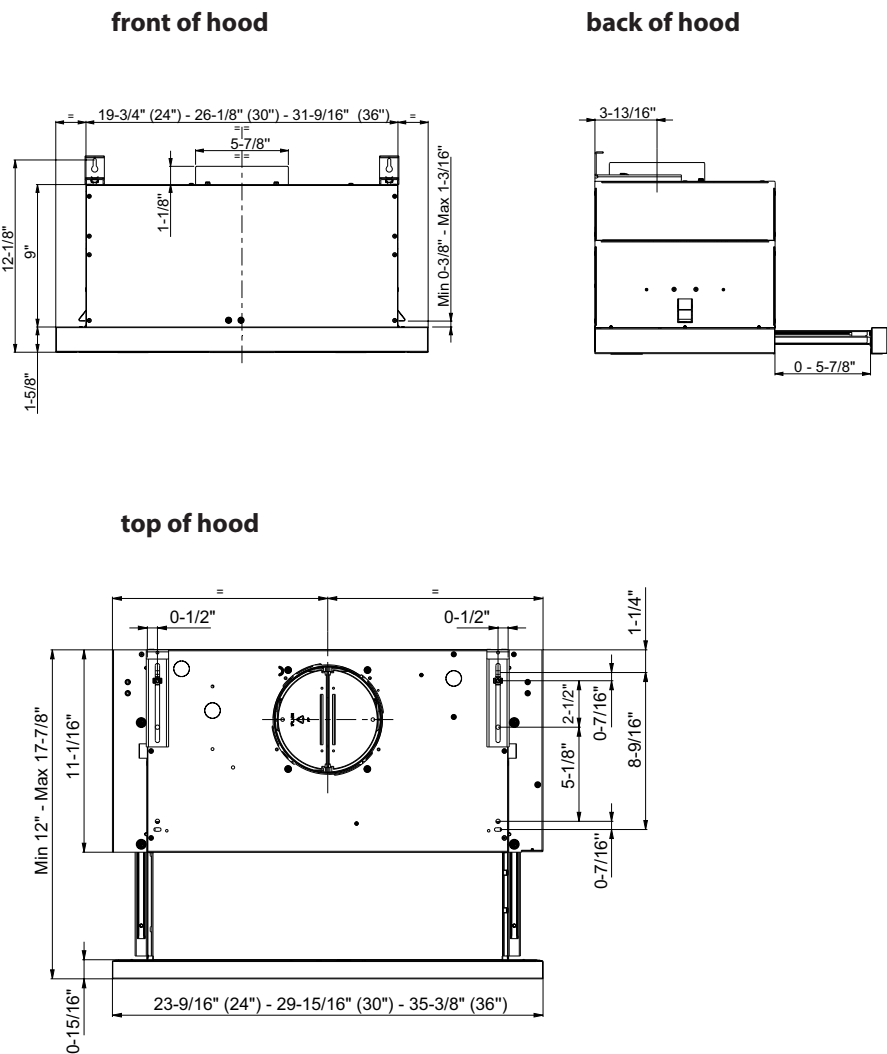

Fig.1
2. Position template B on the wall cabinet, bearing in mind the measurements indicated in Figs.1 and 2 and the minimum distance from the cooktop.
1 - Check the measurements indicated in Figs 1 and 2 and the minimum distance from the cooktop, before installing the hood on the support shelf.